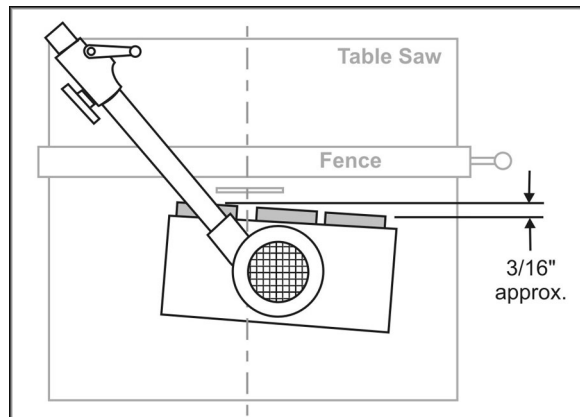

Figure 20
- Position the 3-roller stock feeder so that the axis of the saw blade lines up between the center roller and outfeed roller. (See Figure 20.) Position the 4-roller stock feeder so that the axis of the saw blade lines up between the center wheels. These positions will allow the Stock Feeder to grip the offcut of the workpiece as it leaves the blade.
- Rotate the Stock Feeder so that the direction of feed is angled slightly toward the fence by approximately  $3/16"$  (5mm); that is, the outfeed roller should be slightly closer to the fence than the infeed roller. See Figure 20.